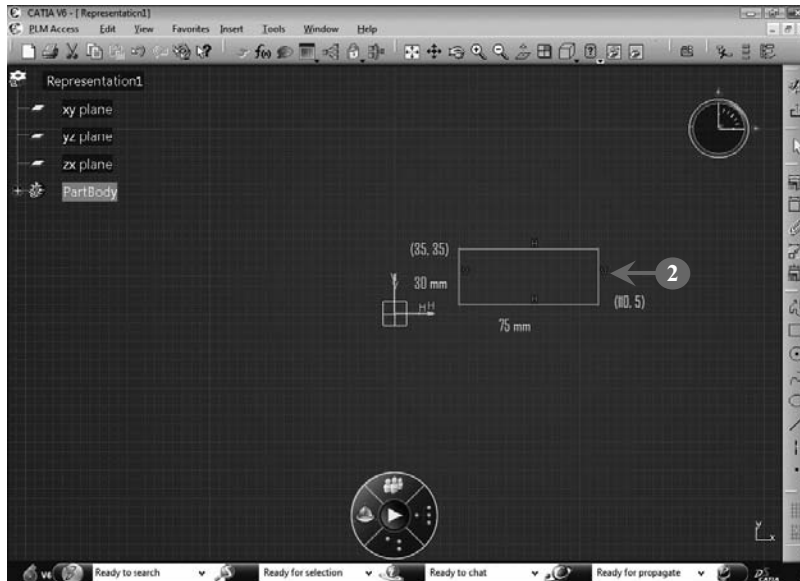

FIGURE 2.21
2. *Click and drag* the mouse pointer from coordinate (35, 35) to (110, 5). The final rectangle drawn is shown in **Figure 2.21**:
Figure 2.21 shows the rectangle with the specified dimension, where H (75 mm) denotes its horizontal dimension and V (30 mm) denotes its vertical dimension.